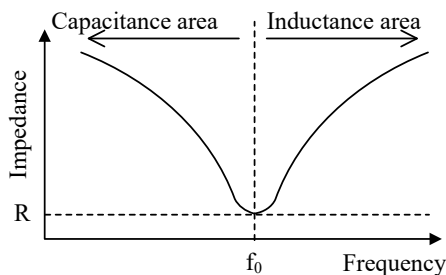

Figure 8-2. Impedance of Resonant Circuit
When the frequency, f , changes, the impedance of resonant circuit will change as shown in Figure 8-2.
When $2\pi f L = 1/2\pi f C$, $\dot{Z}$ of Equation (2) becomes the minimum value, R (see Figure 8-2). In the case, ω is calculated by Equation (3).